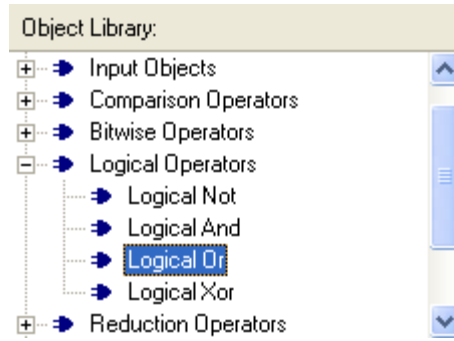

Figure 19. Select the Logical Or operator from the Object Library window and drag this into the editing window.
- We now need to add the necessary logical operators to our circuit. We will need an OR gate as well as three edge level detectors. To access the OR gate, click on the plus sign next to Logical Operators and select Logical Or, as in Figure 19. Then drag and drop the operator into the editing window.